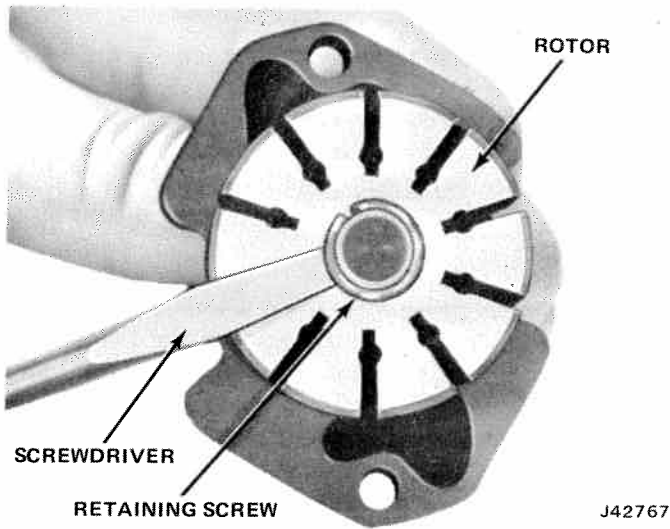

Fig. 11-89 Rotor Retaining Ring Removal
(13) Remove and discard end plate O-ring seal.
(14) Place shaft end on bench and press down on housing until shaft is free.
(15) Turn housing over and remove shaft and rotor assembly, being careful not to drop parts. If the two dowel pins did not come out with assembly, remove dowel pins from housing.
(16) If it is desired to disassemble the shaft and rotor assembly use a screwdriver to remove retainer ring (fig. 11-89).
(17) Remove and discard pressure plate O-ring seal.
(18) Remove shaft seal, if defective, by prying out with small screwdriver.